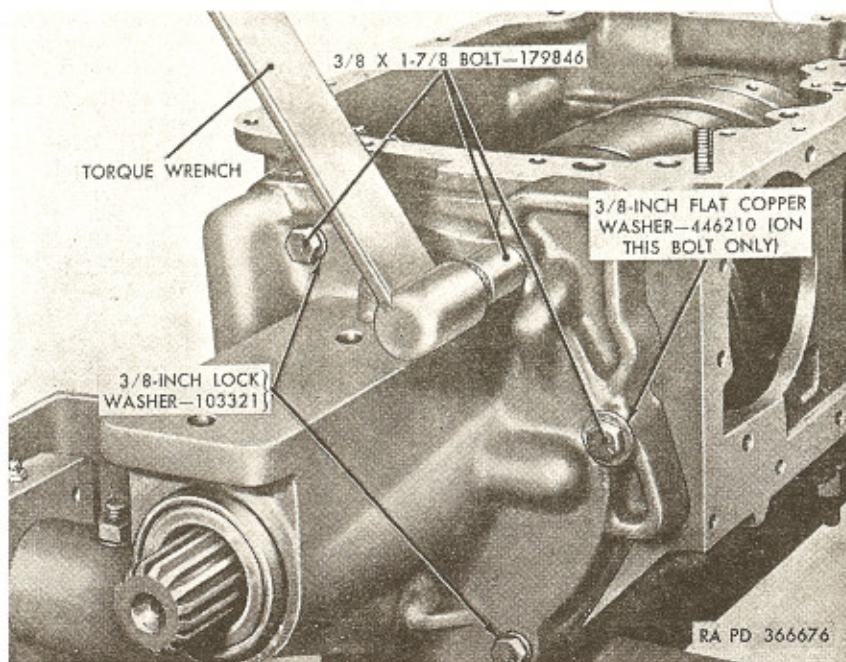

Figure 189. Tightening output shaft bearing retainer bolts (301MG).
- g. Attach rear bearing retainer to transmission case by loosely installing six $\frac{3}{8}$ x $1\frac{7}{8}$ bolts, five $\frac{3}{8}$ -inch lockwashers, and one $\frac{3}{8}$ -inch flat copper washer. Install flat copper washer in position shown in figure 189.
- i. Final-tighten bolts attaching output shaft bearing retainer to transmission case to 28 to 33 pound-feet torque (fig. 189).